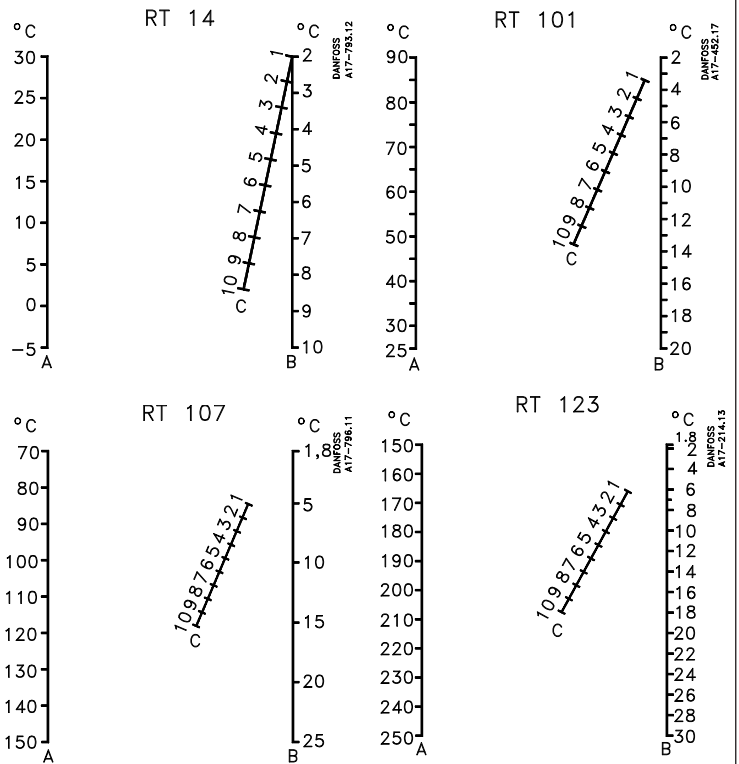

Fig. 2
The differential is set by rotating the differential adjusting nut (19) according to the nomogram concerned (fig. 2).
1. Set the thermostat on 180°C with the knob (5).
2. Set the differential adjusting nut (19) on number 3 which can be found by reading off the nomogram for the RT123 in fig. 2.